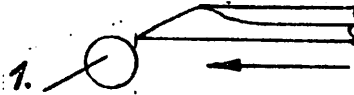

Fig. 23
- a) Turn the balance wheel in the feed direction until the tip of the hook has reached the first needle (fig. 23).